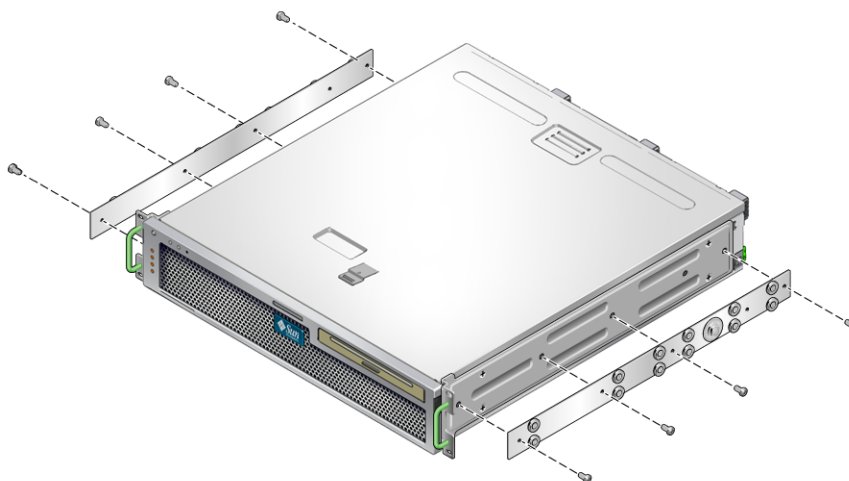

FIGURE 2-9 Attaching the Glides to the Server Chassis
5. Using eight of the M4 x 0.5 x 5 mm Phillips panhead screws from the rackmount kit (four for each side), attach each glide to the side of the hardmount brackets (FIGURE 2-9).